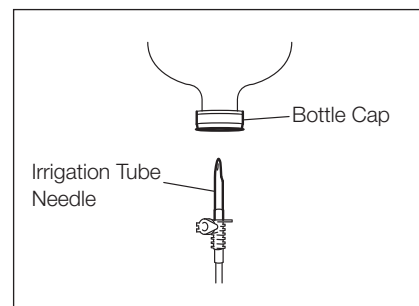

Fig. 13
- (1) ① Turn the pump knob to OPEN position, and hook the side of the tube equipped with the irrigation tube needle (See Fig. 13) to the right side (A) of the pump. Insert the tube deep in the direction of WATER WAY. Then, be careful that the tube is not twisted.